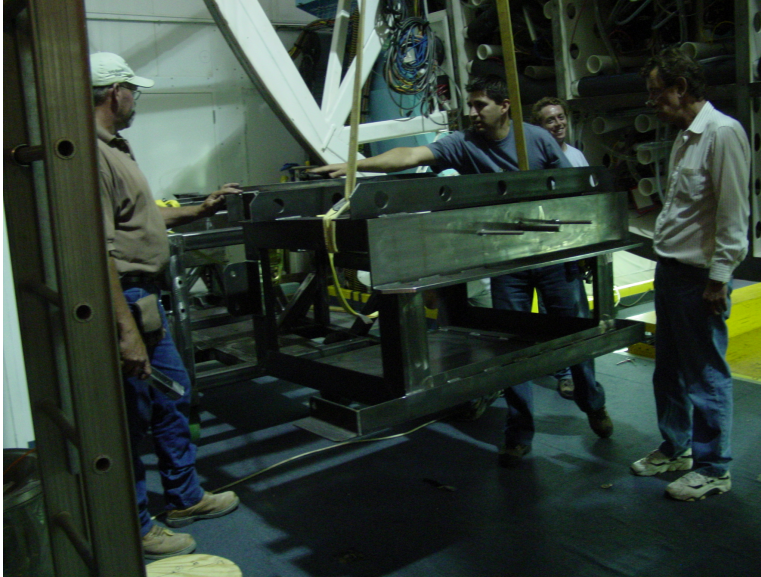

Figure 7
17. Once the instrument is lowered onto the floor, lift the counterweight with the crane and attach it to the cart assembly. See Figure 7.